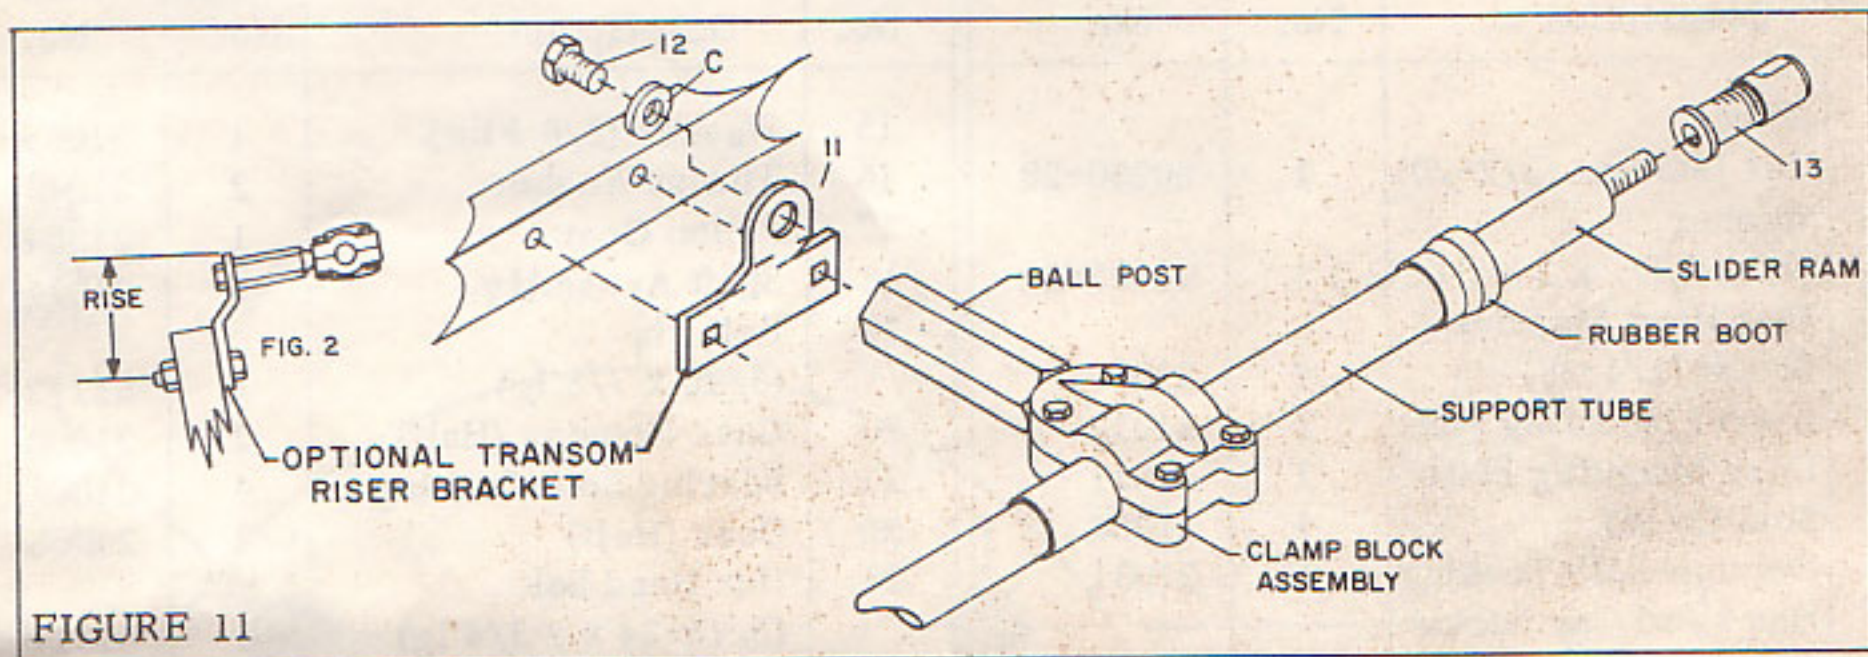

FIGURE 11
PREPARE STEERING CABLE (FIG. 11)
STEP - 2. (Fig. 11) Mount the Ball Post to the transom by loosening the 4 bolts to Clamp Block. Slide Clamp Block and Ball Post to a position on the horizontal slider tube 18" away from the ball joint steering ram connection. Before drilling 1/2" hole, rotate motor from full right to full left, and check for clearance. If necessary, adjust position of Ball Post until it clears all positions. If necessary, use Riser Bracket (11) accessory. Drill 1/2" hole thru transom and mount ball post using parts in the following order: Flatwasher, Transom Flatwasher, thru transom bolt to ball post (hardware on ball post). Tighten 4 bolts to Clamp Block.
STEP - 3. Bolt Riser Bracket (11) with Flatwasher (C) to Ball Post in Slider Mounting Assembly with Bolt (12). See Figure 11 Drill mounting holes in bracket and bolt to transom with commercial fasteners not supplied. (Carriage bolts recommended).